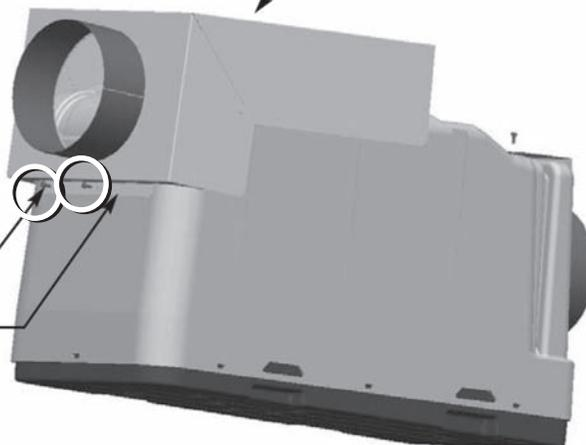

FIGURE 2
4. Ensure the rear flange of the top duct assembly is seated flush against the back of the plastic housing. See Figure 2.